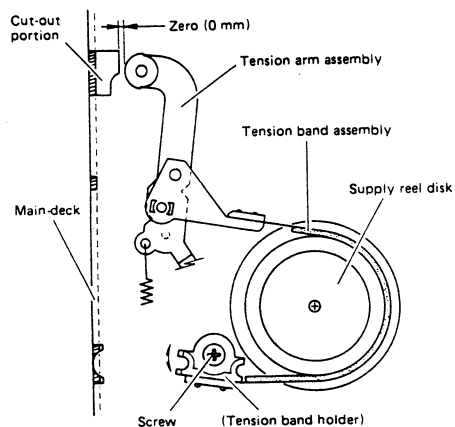

Fig. 2-12 Tension pole position
2. Loosen screw a little bit, then adjust the tension band holder so that the distance, shown in Fig. 2-12, becomes zero (0 mm).